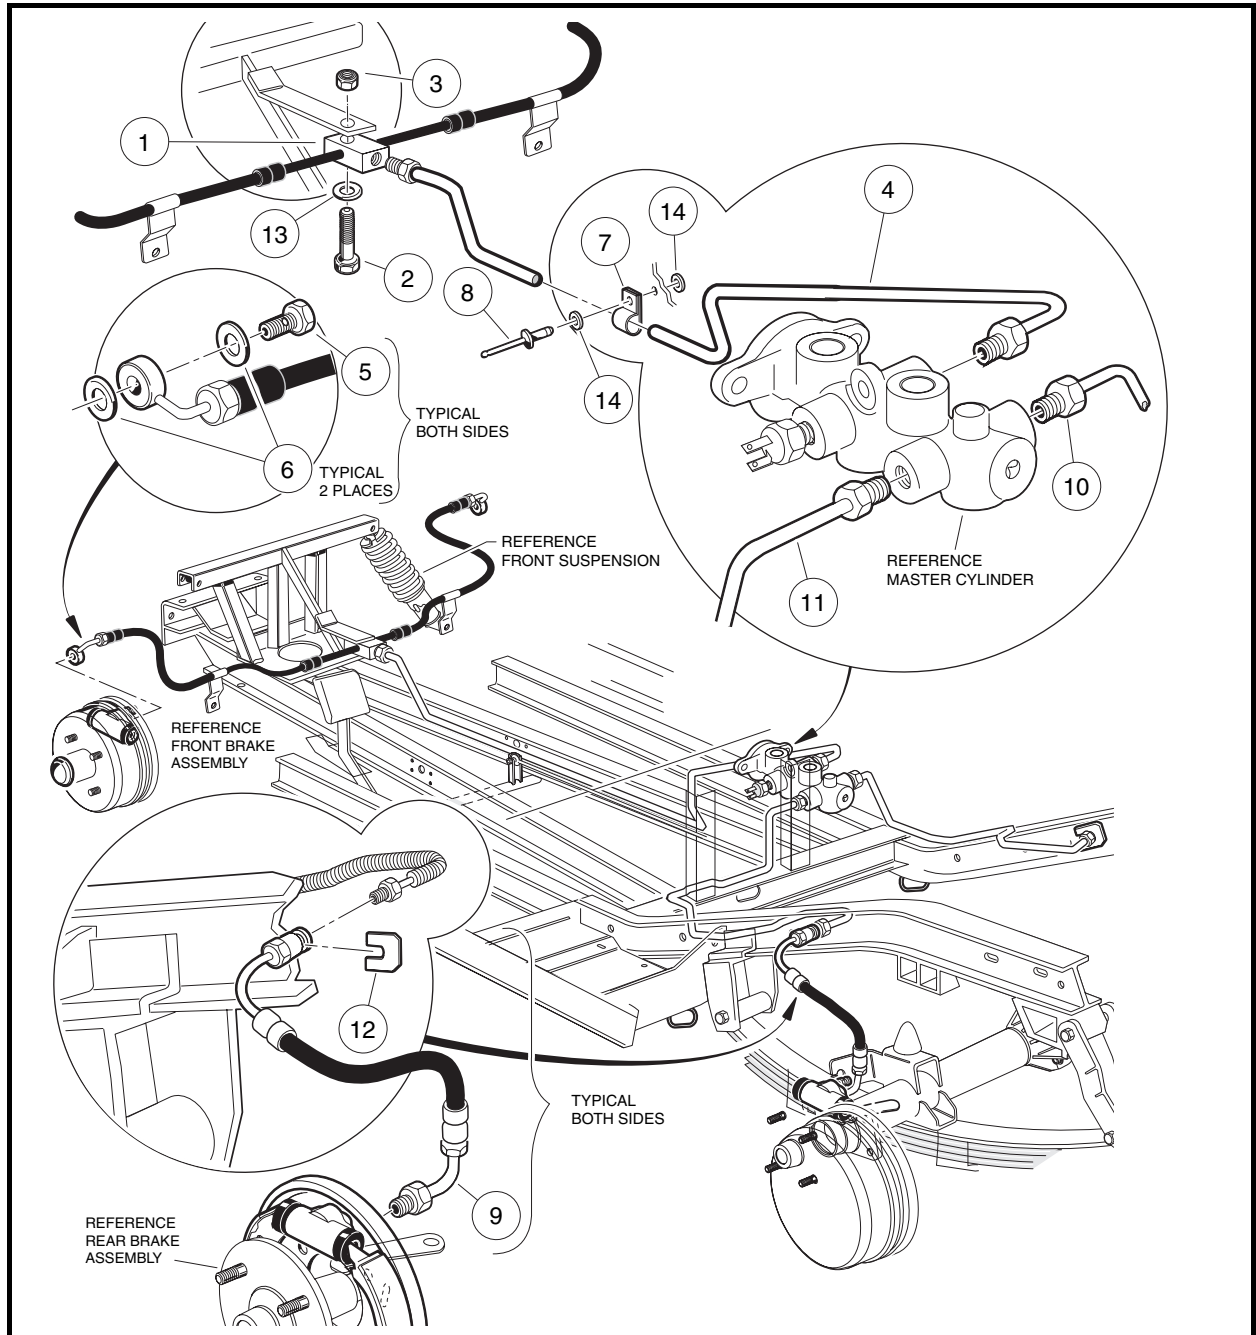
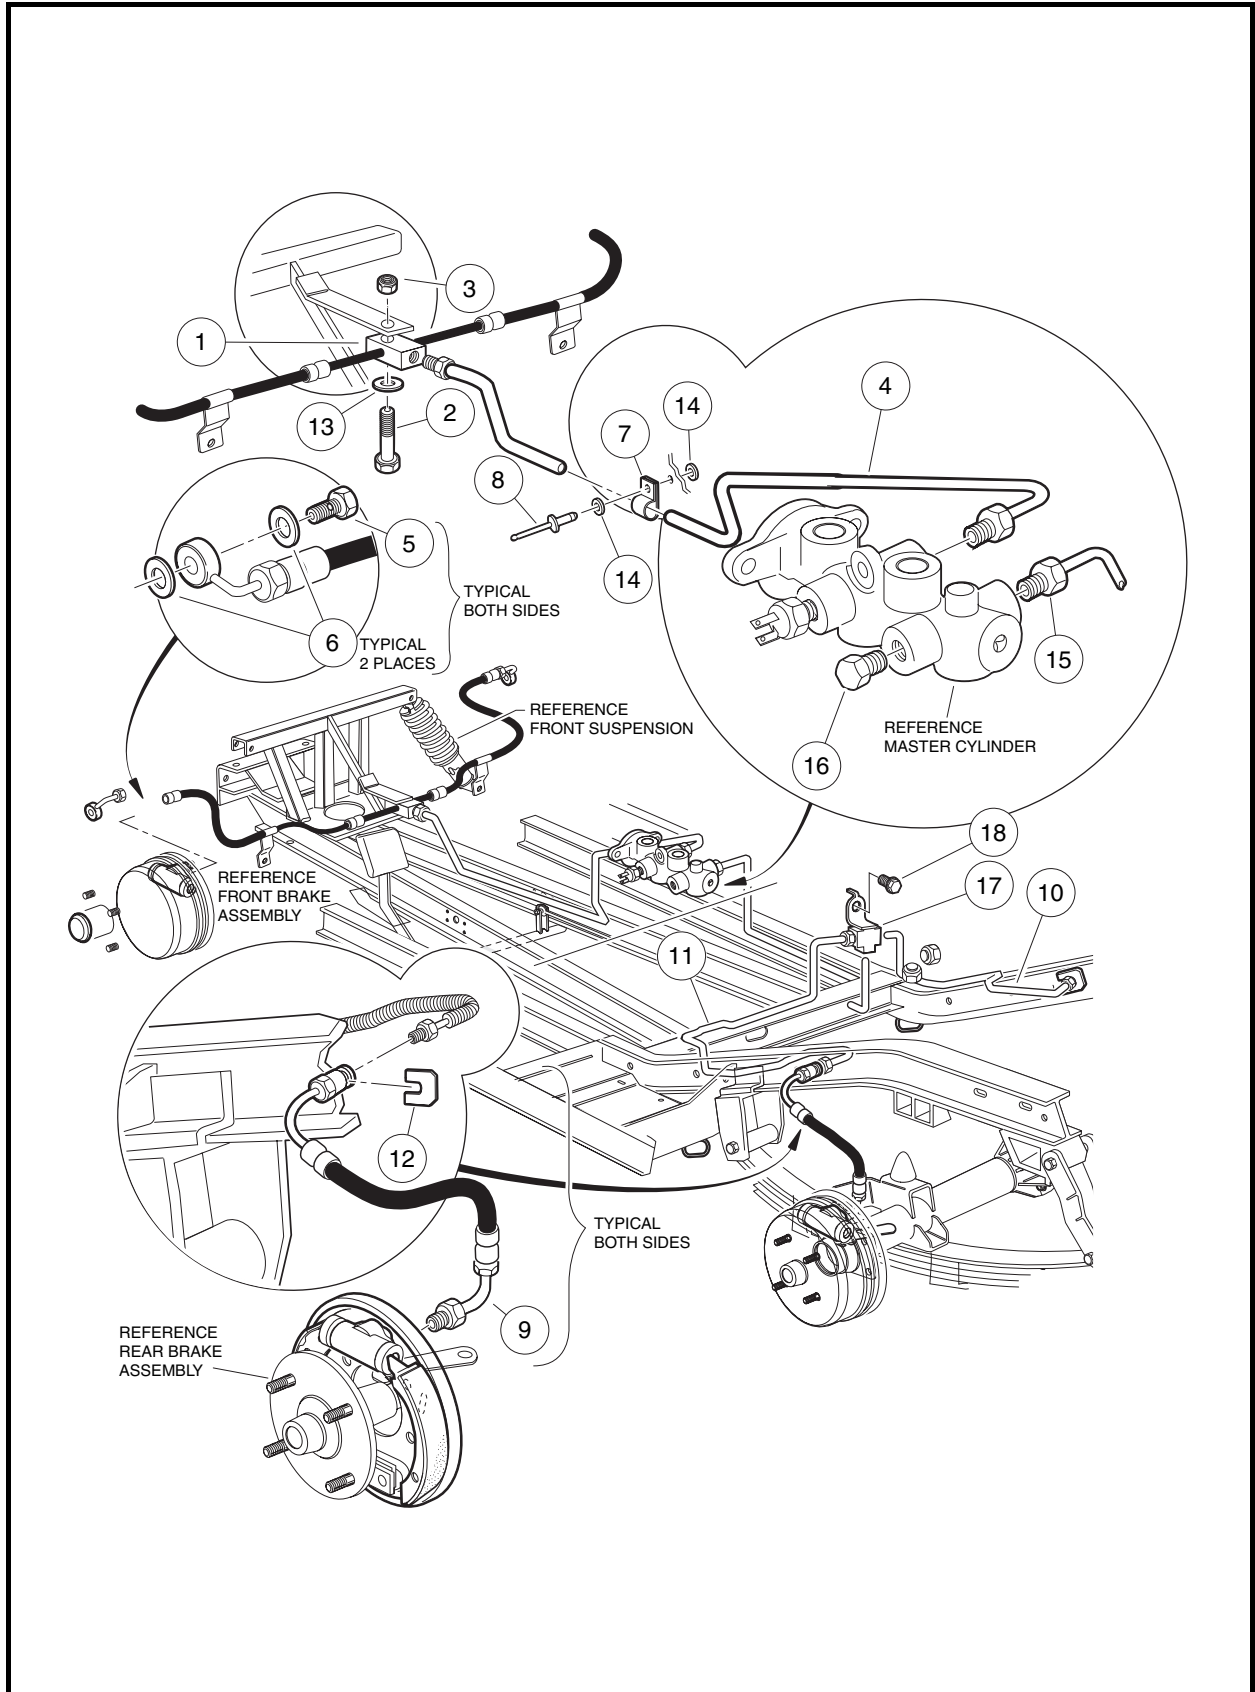
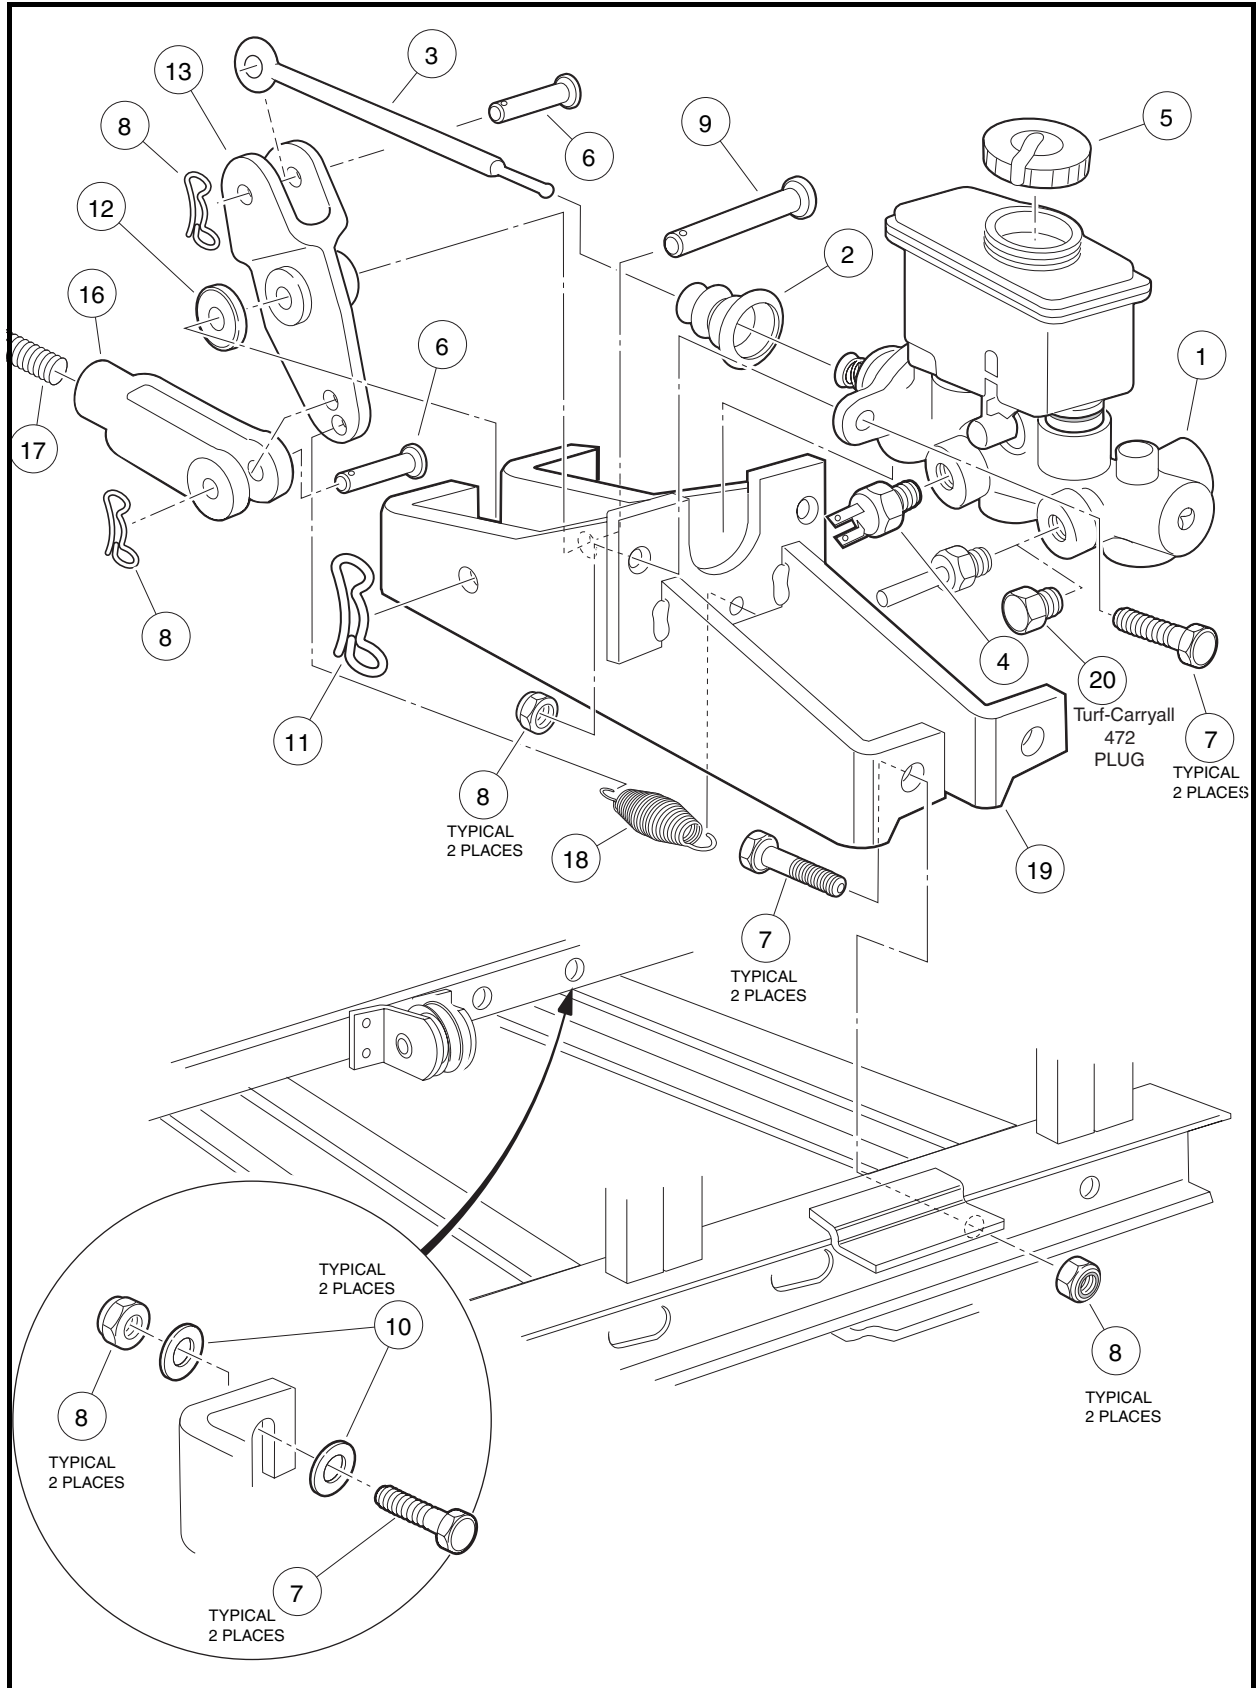

Figure 6-20 272/1200 Four-Wheel Hydraulic Brake System
Figure 6-21 Carryall 472/XRT 1200SE Four-Wheel Hydraulic Brake System
Figure 6-22 Master Cylinder
3. Drill the rivet (8) securing the brake line (4) to the vehicle frame (**Figure 6-20, Page 6-26**).
4. Place a pan below the vehicle to collect brake fluid and use a 7/16-inch flare nut wrench to remove front brake line (4) from the master cylinder.
5. Use a 3/8-inch flare nut wrench to remove brake line (4) from the T-manifold block (1).
1. Connect brake line (4) to the master cylinder and finger-tighten (**Figure 6-20, Page 6-26**).
2. Connect brake line (4) to the T-manifold block (1) and finger-tighten.
3. Secure the brake line to the vehicle frame with the P-clamp (7), using a new 3/6 x 3/4-inch aluminum pop rivet (8), and two 3/16-inch rivet washers (14).
NOTE: If either of the two front brake hoses or the T-manifold block (1) are found to be damaged, the entire assembly must be replaced (**Figure 6-20, Page 6-26**).
4. Remove the banjo bolt (5) and two copper washers (6) from the front wheel cylinder assemblies (**Figure 6-20, Page 6-26**). Discard the copper washers (6).
6. Use a 3/8-inch flare nut wrench to remove the brake line (4) from the T-manifold block (1) (**Figure 6-20, Page 6-26**).
7. Remove the bolt (2), washer (13) and locknut (3) that secure the T-manifold block (1) to the shock tower.
1. Install the 1/4-20 x 1-1/4-inch hex-head bolt (2) and nylon locknut (3), washer (13), T-manifold block (1) to frame bracket. Tighten to 76 in-lb (8.6 N·m) (**Figure 6-20, Page 6-26**).
2. Connect brake hoses with new copper washers (6) and banjo bolts (5). Position the elbow of each hose toward the rear of the vehicle. Tighten bolts to 13 ft-lb (17.6 N·m).
4. Connect the flare fitting on the brake line (4) to the T-manifold block (1). Tighten to 11 ft-lb (14.9 N·m) (**Figure 6-20, Page 6-26**).
- 1.4. Use a 3/8-inch flare nut wrench to remove brake line (10 or 11) from the master cylinder (**Figure 6-20, Page 6-26**).
- 2.4. Use a 3/8-inch flare nut wrench to remove brake line (15) from the master cylinder (**Figure 6-21, Page 6-27**).
- 1.1. Install brake line (10 or 11) to rear brake hose at the I-beam of the vehicle frame and tighten to 11 ft-lb (14.9 N·m) (**Figure 6-20, Page 6-26**).
- 1.2. Install the opposite end of the brake line to the master cylinder and tighten the flare nut fitting to 11 ft-lb (14.9 N·m) (**Figure 6-20, Page 6-26**).
- 2.1. Install brake tee (17) to vehicle frame plate using hex-head 1/4-20 x 3/4-inch bolt (18) and tighten to 65 in-lb (7.345 N·m) (**Figure 6-21, Page 6-27**).
5. Use a 3/8-inch flare nut wrench to remove the rear brake line (10 or 11) from the rear brake hose at the I-beam of the vehicle frame (**Figure 6-20, Page 6-26 or Figure 6-21, Page 6-27**).
6. Remove the horseshoe clip (12) that secures the rear brake hose (9) to the I-beam frame and remove brake hose (9) through the D-shaped hole in the vehicle I-beam.
1. Install brake hose (9) through the oval-shaped hole in the vehicle I-beam, and install the horseshoe clip (12) that secures the brake hose to the I-beam frame (**Figure 6-20, Page 6-26 or Figure 6-21, Page 6-27**).
3. Install the rear brake line (10 or 11) to the rear hose (9) at the I-beam of the vehicle frame (**Figure 6-20, Page 6-26 or Figure 6-21, Page 6-27**). Tighten to 11 ft-lb (14.9 N·m).
2. Remove brake rod clevis pin (6), bow tie locking pin (8) and clevis (16) from the bell crank (13) (**Figure 6-22, Page 6-30**).
3. Remove the spring (18) from the bell crank (13) and master cylinder mounting bracket (19).
4. Remove push rod (3), clevis pin (6) and bow tie locking pin (8).
5. Remove bell crank clevis pin (9) and bow tie locking pin (11) from the master cylinder mounting bracket (19) and remove bell crank (13) and centering spacer (12).
1. Install bell crank clevis pin (9) through the master cylinder bracket (19), bell crank (13), centering spacer (12) and attach bow tie locking pin (11) (**Figure 6-22, Page 6-30**).
2. Install push rod clevis pin (6) through bell crank (13) and push rod (3) and attach bow tie locking pin (8).
3. Install brake rod clevis pin (6) through clevis (16) and bell crank (13) and attach bow tie locking pin (8).
4. Install spring (18).